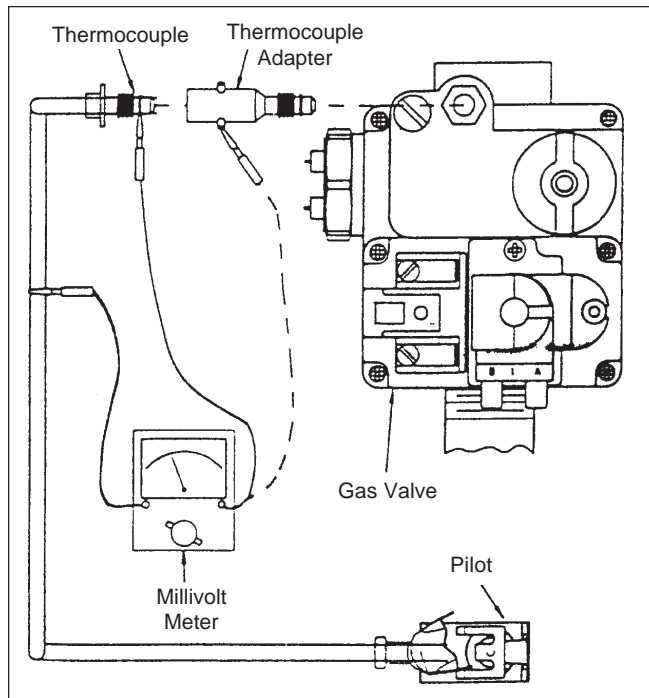

Figure 40. Testing the pilot thermocouple.
5. To test the pilot thermocouple under load, screw the pilot thermocouple into the end of a millivolt reading adapter (see Figure 40).